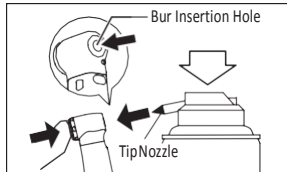

Fig.18
- 2) Lubricate the chuck directly where the bur is inserted (Fig. 18).